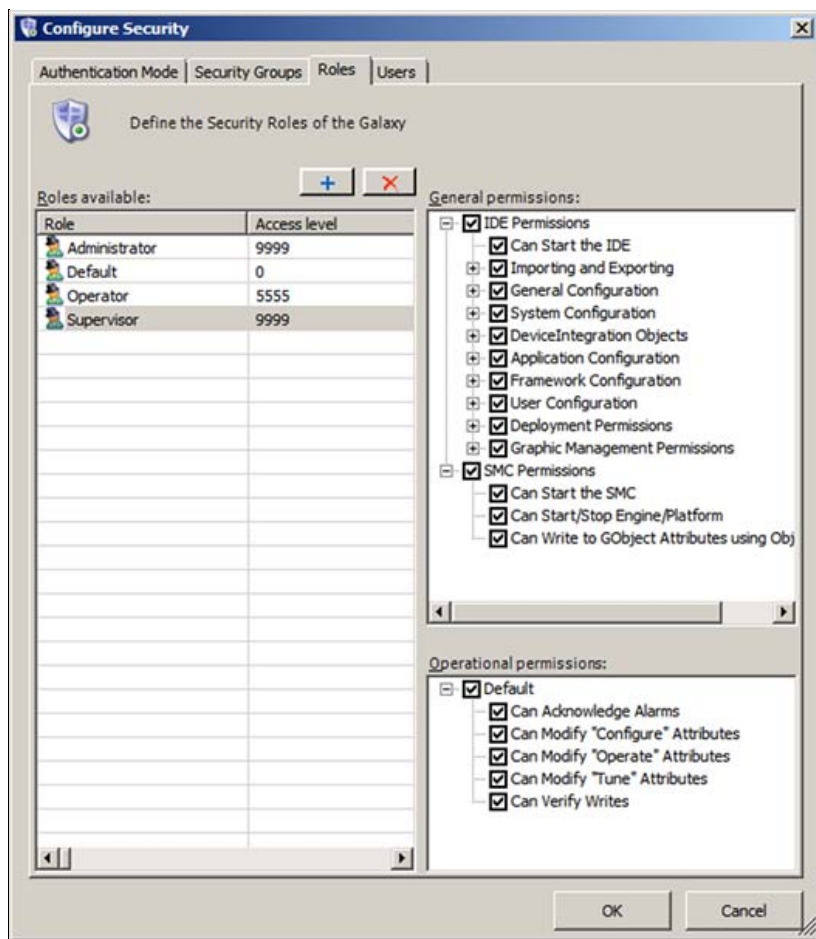

FIGURE 3: CHECK PERMISSIONS FOR SUPERVISOR
14. For the Supervisor Role, check all the permissions as shown in Figure 3 (below).